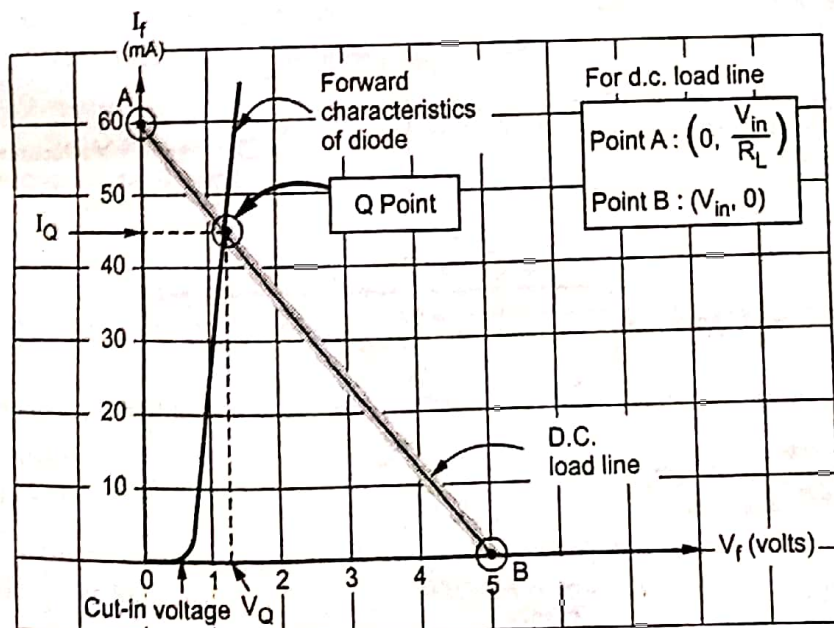

Fig. Q.21.2 D.C. load line analysis of diode
- This is shown in the Fig. Q.21.2.